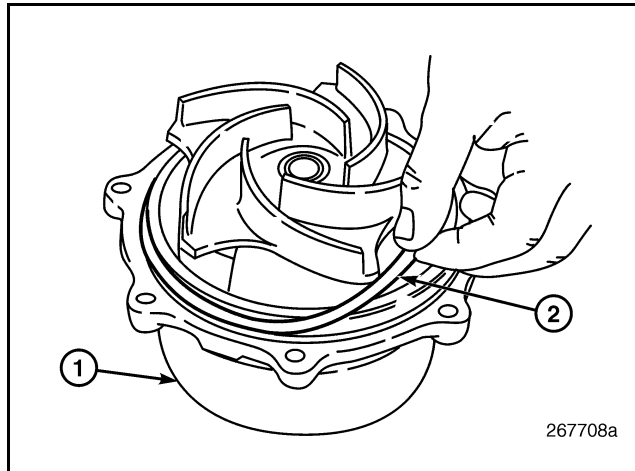

Figure 480 — O-Ring Installation
15. Install a **new** O-ring on the pump cartridge housing mounting flange (Figure 480).